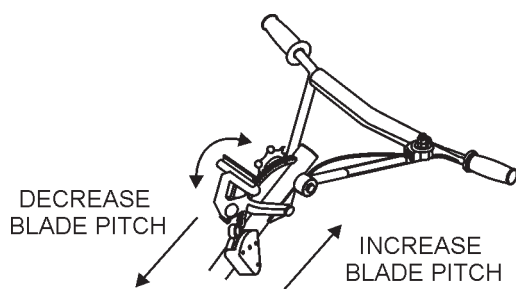

Figure 28. Quick-Pitch™ T- Handle
1. To pitch the blades upwards using the "**Quick-Pitch™ T-handle**", (Figure 28) simply squeeze the trigger lock and pull the **T-handle** towards the operator. Pushing the **T-handle** towards the engine will cause the blades to lay flat.